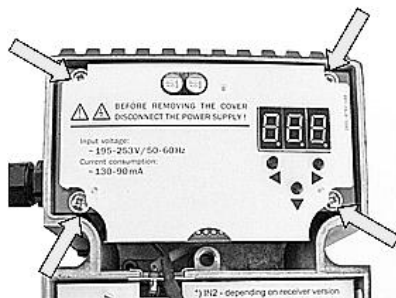

Fig. 8.8. Replacing the TMM 729 remote monitoring module - step 6.
- attach the monitoring module with four screws in the locations presented on fig. 8.8.
- Fig. 8.8. Replacing the TMM 729 remote monitoring module - step 6.